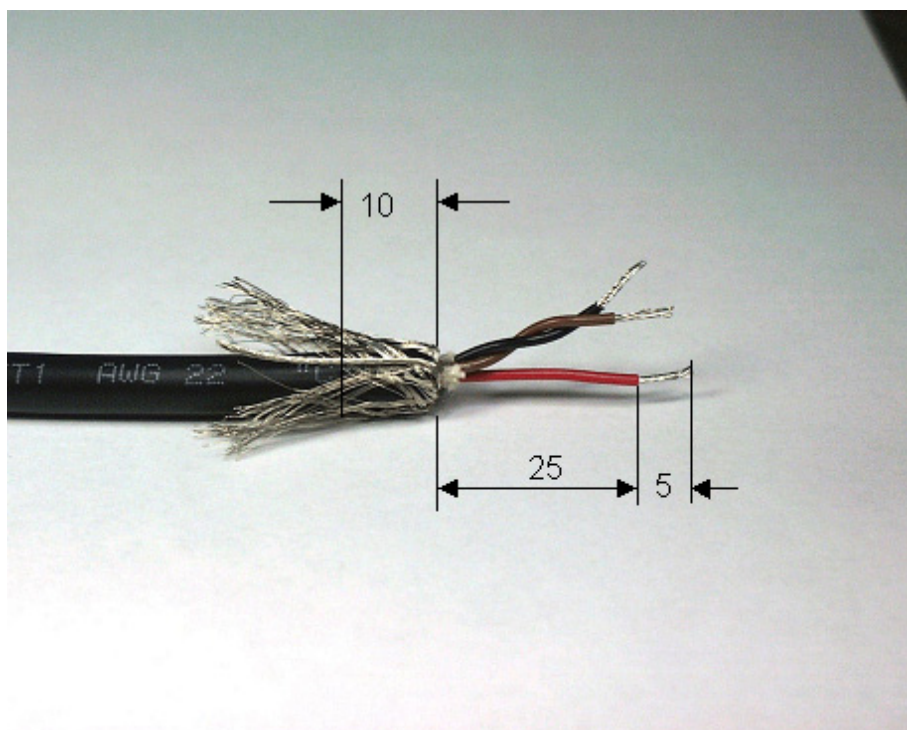

Fig. 8.1.Preparing the cable
As an example of using 2 X 2 wire twisted cores (Fig 8.1):
- Cut the braided shield 10mm from the end as shown in Fig. 8.1.
- Cut away the outer insulation approx. 40mm from the end of the cable and pull back the braided shield (as shown in Fig. 8.1).
- Cut the braided shield 10mm from the end (see Fig. 8.1)